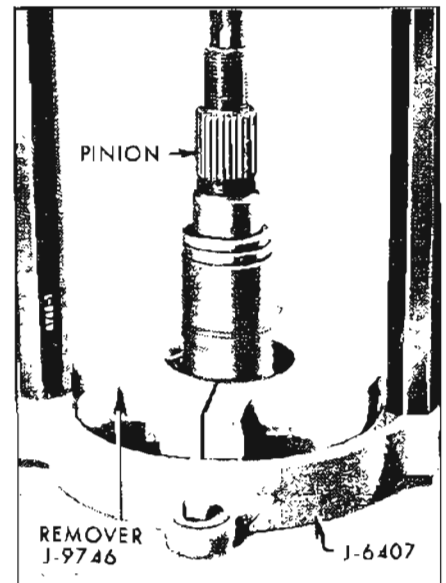

Figure 6-20—Removing Rear Pinion Bearing
5. If rear pinion bearing is to be replaced or pinion depth setting is to be changed, remove rear bearing from pinion shaft using Remover J-9746 and Holder J-6407 in a press, or in a set-up using Ram and Yoke Assembly J-6180 as shown in Figure 6-20.